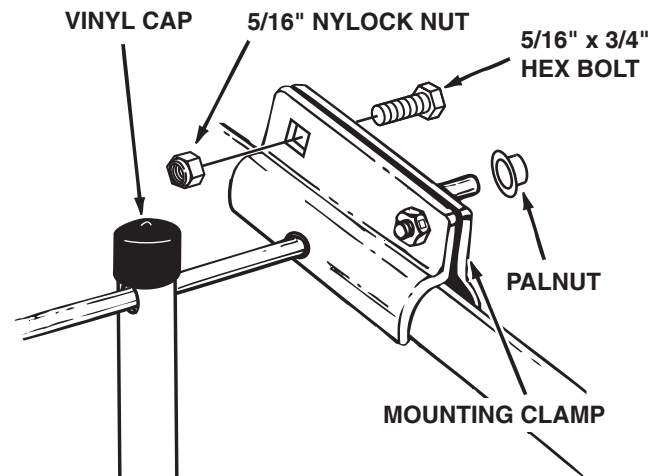

FIGURE 23
13. Assemble the two remaining hopper mount clamps onto the pivot rod on the outside of the bag. Fasten them to the inside clamps using four 5/16" x 3/4" hex bolts and 5/16" nylock nuts. Tighten securely. See figure 23.
14. Assemble two palnuts onto the ends of the pivot rod by lightly tapping them with a hammer. See figure 23.
15. Place a vinyl cap onto each bag arm tube. See figure 23.